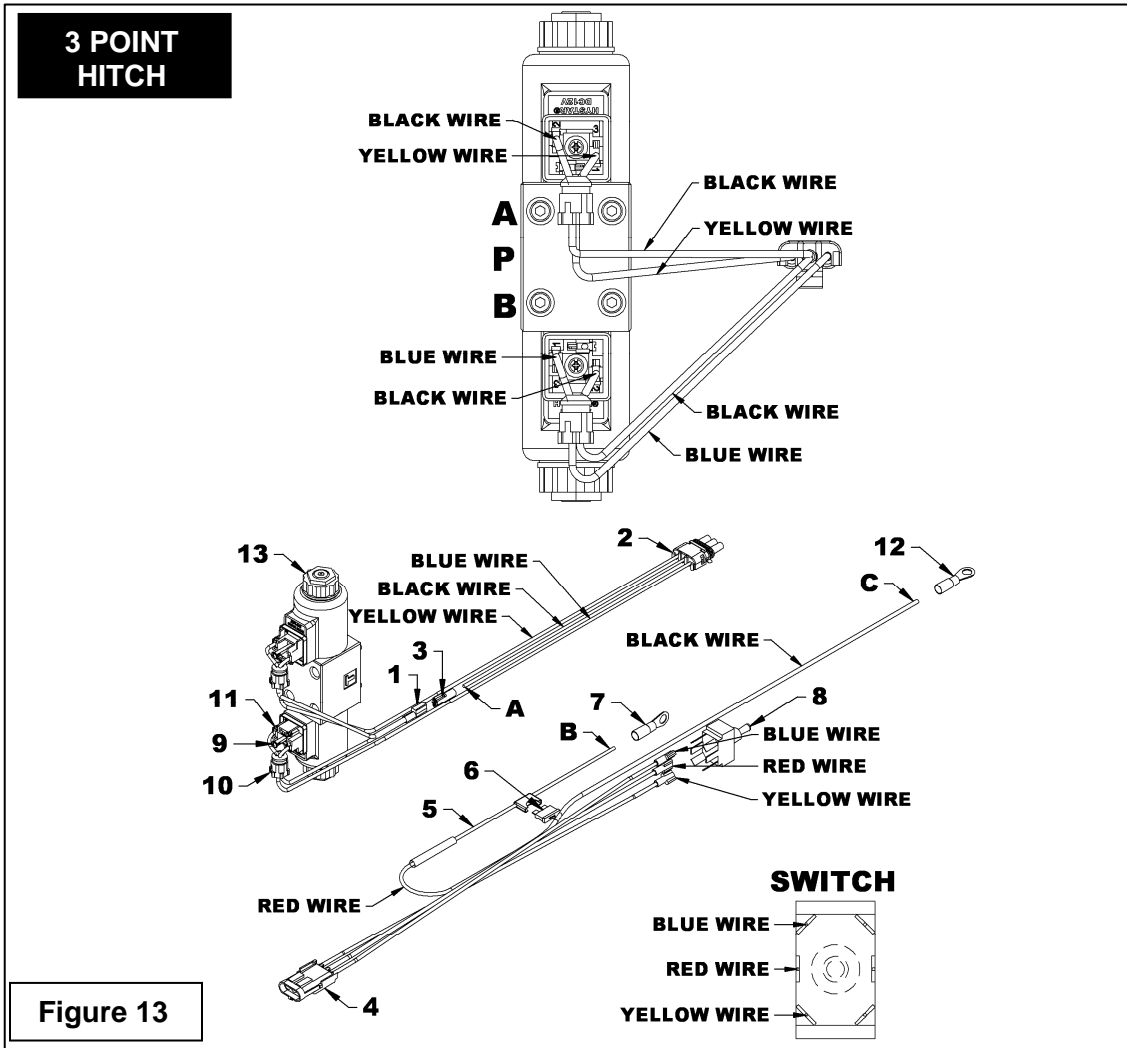

Figure 13
**NOTE:** The locking wedges must extend under the universal hitch when the broom is properly attached to the vehicle. (see **Figure 13**).
8. Raise the four parking stands completely (item 5).
9. Connect the supply hoses (item 4) to the vehicle.